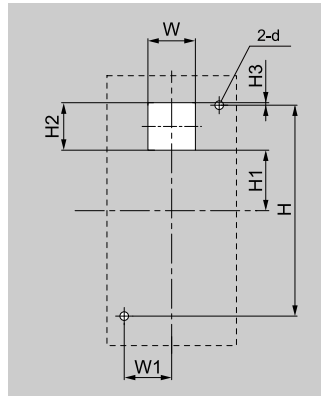

Figure 2.11 Panel Cut-Out Dimensions to Attach Outside of Control Panel
1. Use the panel cut-out dimensions in Figure 2.11 and Table 2.3 to cut an opening in the control panel for the keypad.